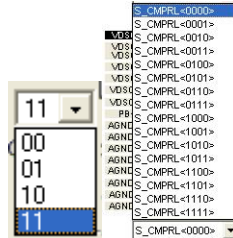

Figure 59
- (1) Click the specified network name with mouse left key, VRLCMP can select to that network
- (2) Click the specified network switch with mouse left key, VRLCMP can select to that network
- (3) Figure 59 will show up by clicking mouse left key, and then users can select the switch network